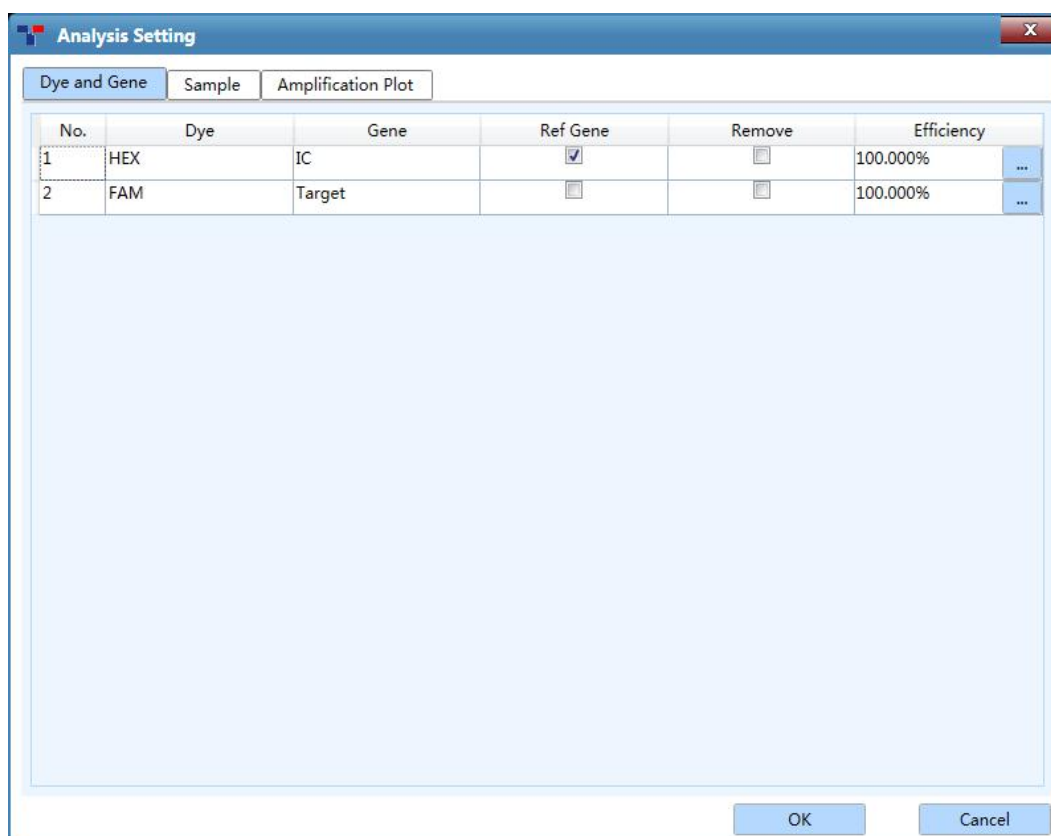

Figure D-12.1 Rel Quant Analysis Setting interface - Dye and Gene tab
- **Dye and Gene** tab: display the settings of **Dye** and its marked **Gene** of the current experiment, as shown in figure D-12.1.
- **Dye:** display the settings of **Dye** and its marked **Gene** of the current experiment, as shown in figure D-12.1.